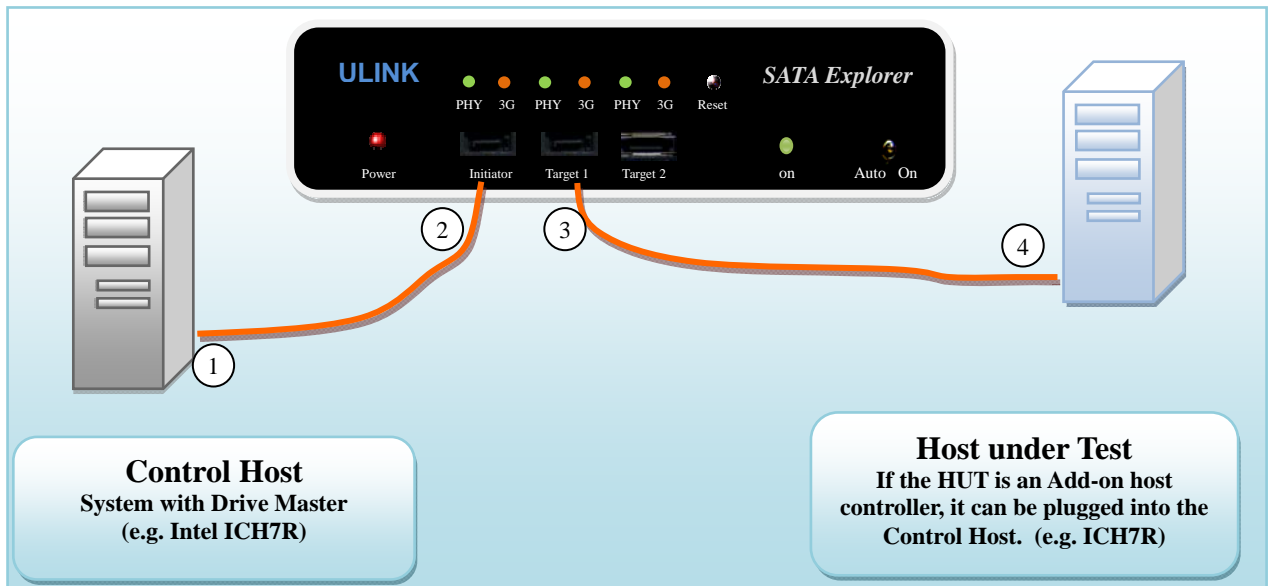

Figure 1: Host BIST Test Configuration
1. Setup the hardware according to Figure 1 on Page 6.